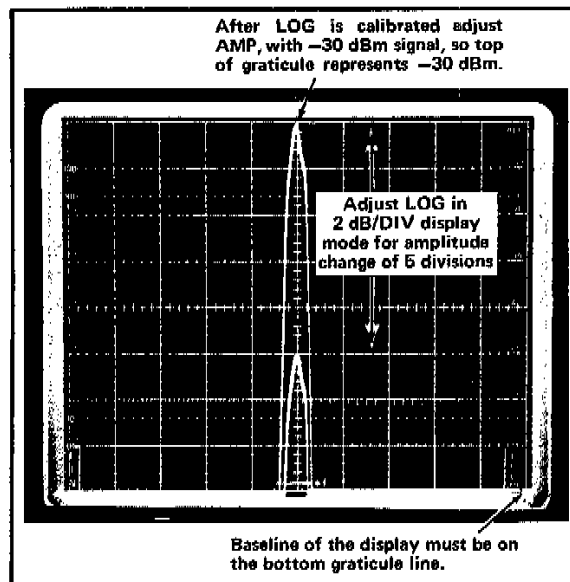

Fig. 2-4. Calibrating the LOG and REFERENCE LEVEL of the display (Double exposure to illustrate the two displays with reference to each other).
- d. Adjust the AMP CAL and the LOG CAL (if necessary) to bring the 50 MHz signal within the graticule window. Adjust the AMP CAL to establish a signal reference amplitude of 8 divisions (Fig. 2-4 shows a full screen display).
- h. Repeat these steps until the 2 dB/DIV LOG display is calibrated (see Fig. 2-4). Return the RF Attenuator to 0 dB (REFERENCE LEVEL -30 dBm), then adjust AMP CAL to position the top of the -30 dBm signal on the reference line. Ensure that the -30 dBm signal is 8 divisions in amplitude.